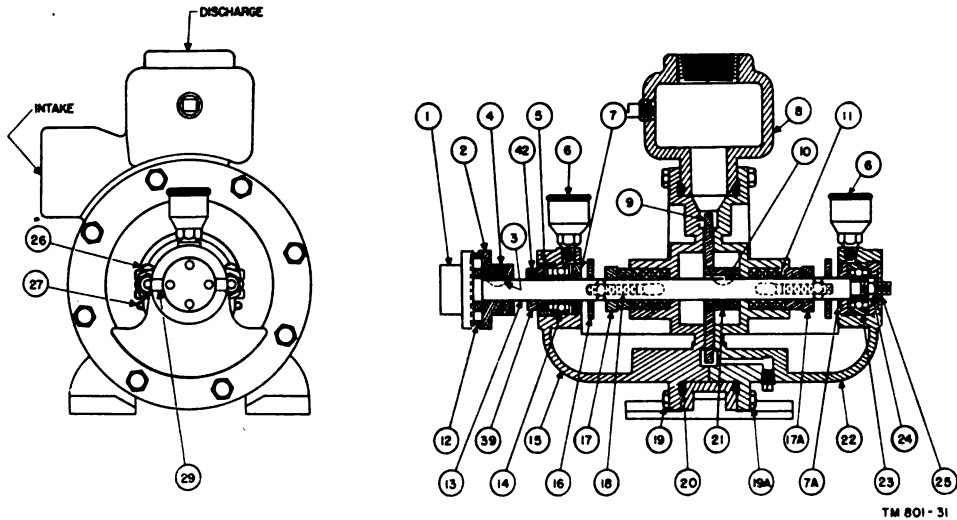

Figure 56. Water Cooling Unit RU-2-C, water pump cross-section.
a. **DISASSEMBLY OF WATER PUMP.** Follow instructions below for disassembling the water pump. Refer to the cross-sectional drawing (fig. 56) for part num-
b. After performing the complete lubrication procedure for the water pump of Water Cooling Unit RU-2-C, it will be necessary to readjust the impeller clearance. Refer to the pump cross-sectional diagram (fig. 56) and perform the following steps: